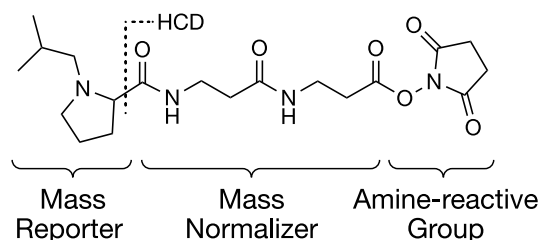

Figure 1 Functional regions of the TMTpro™ structure including MS/MS fragmentation site by higher-energy collision dissociation (HCD)
The Thermo Scientific™ AccelerOme™ TMTpro™ 16plex MS Sample Preparation and Labeling Kits enable multiplex relative quantitation by mass spectrometry (MS). The kit contains a Sample Prep Module and a TMTpro™ 16plex Labeling Reagent Module (shipped separately). Like other isobaric mass-tagging reagents, each reagent within a set has the same nominal mass (isobaric) and chemical structure composed of an amine-reactive NHS-ester group, a spacer arm, and a mass reporter (see Figure 1). The reagent set can be used to label up to 16 different peptide samples prepared from cells or tissues. For each sample, a unique reporter mass (126–134 Da) in the low mass region of the MS/MS spectrum is used to measure the relative protein expression levels during peptide fragmentation.